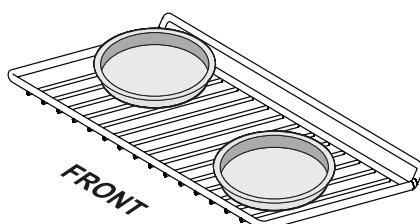

Figure 21: Baking with a single rack
- When baking using one oven rack, position bakeware as shown in Figure 21. Allow at least 2 inches (5 cm) of space between bakeware for proper air circulation.